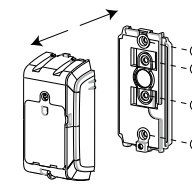

Figure 4: Device and bracket separation
- Use holes A and D in Figure 4 for standard mounting. Add holes B and C in Figure 4 for tamper protection.